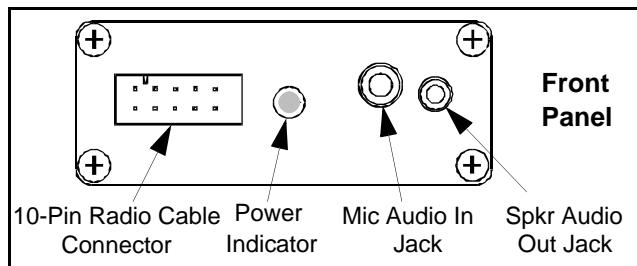

Figure 6-3 RPI Front Panel
3. If the receiver squelch adjustment will be made, connect a SINAD meter to the Speaker Audio Out jack on the RPI (see Figure 6-3). This is a low level fixed audio output, and a 2.6 mm (3/32") phone jack is used.
2. Connect a SINAD meter to the receive audio jack of the RPI (see Figure 6-3) This is a low level fixed audio output.